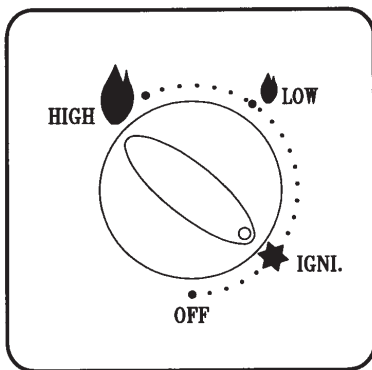

Fig. 5
8. While pressing the control knob continue to turn in a clockwise direction until it stops. The stove is now off. (see figs. 5&6)